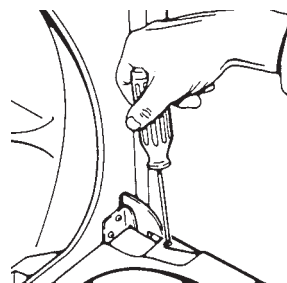

Fig. 4-33
3. Open dryer door. Remove the screws from each door hinge. (Fig. 4-33) Remove dryer door by sliding it off of hinges.